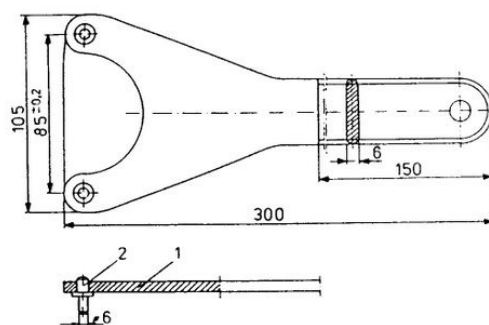

Fig. 12. Special tool for blocking an injection advance angle shifter
- Unscrew and remove an injection advance angle controller (using a special puller, Fig. 8), remove a key. For unscrewing use a flat wrench (Fig. 12) to block an injection pump driving shaft.